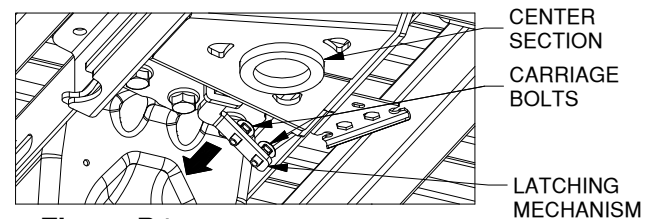

**Figure C2:** View under bed looking at center.
- 2. Tighten the bolts.** With the hitch square and firmly pressed against the frame cross member, tighten the 5/8" bolts. Tighten the center bolt of each three-bolt pattern first, see figure C1. Then tighten the rest, see figure C2. To better access the bolts on the passenger side of the center section move the exhaust as needed to allow access to the bolts. Torque the bolts to 100 ft. lbs.